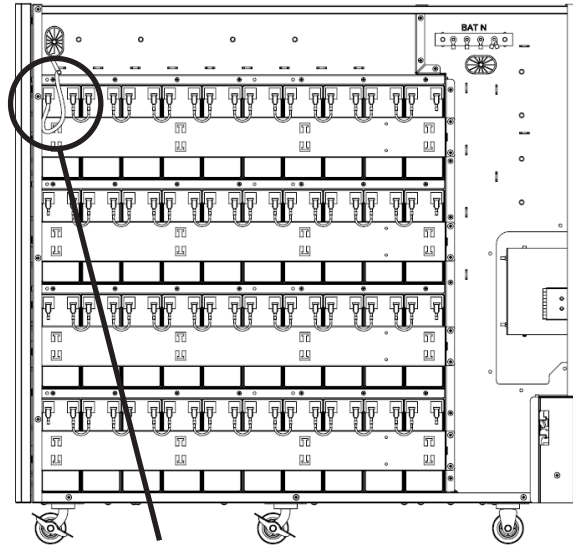

Figure 5-22B
34. Connect group 4 battery 20- to - battery bus bar (BAT -) (Figure 5-22B).